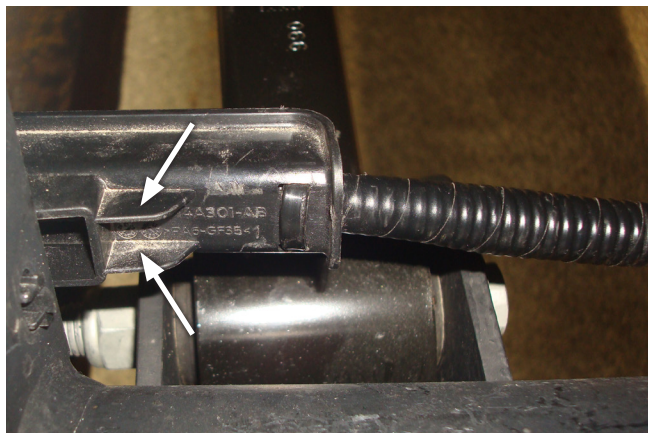

Fig. 4
3. Using a pair of side cutters or equivalent, cut the webs of the harness brackets between the connector and axle (Figs. 4 & 5) on both sides. Then, by pushing on the release lever, pull the connector's lock out flush with the control arm bracket.